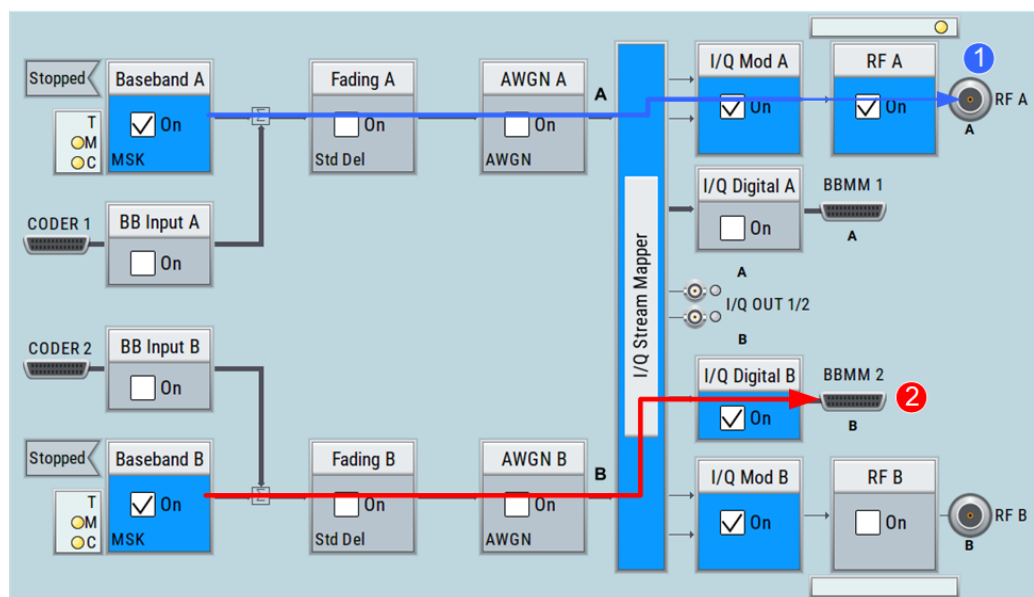

Figure B-1: Explanation of the terms "signal path"
The Figure B-1 illustrates the term signal path.
Compare the signal processing in both paths on Figure B-1. In the first path, the output signal is an analog signal modulated on a radio frequency (RF). The second signal path is digital one. The digital baseband signal is routed to the digital output interface; the output signal is not modulated on an RF.